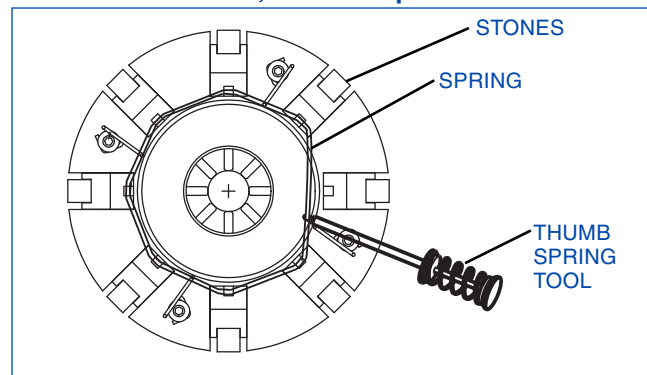

FIGURE 2-11, Install Holders
- Grab the bottom of spring of one of the holder and pull it over spring slots in bottom of holder, using the Thumb Spring Tool (*refer to Figure 2-11*). Repeat for second holder.
When removing stone holders, always remove in pairs. To remove and/or replace holders, proceed as follows (*refer to Figure 2-11*):